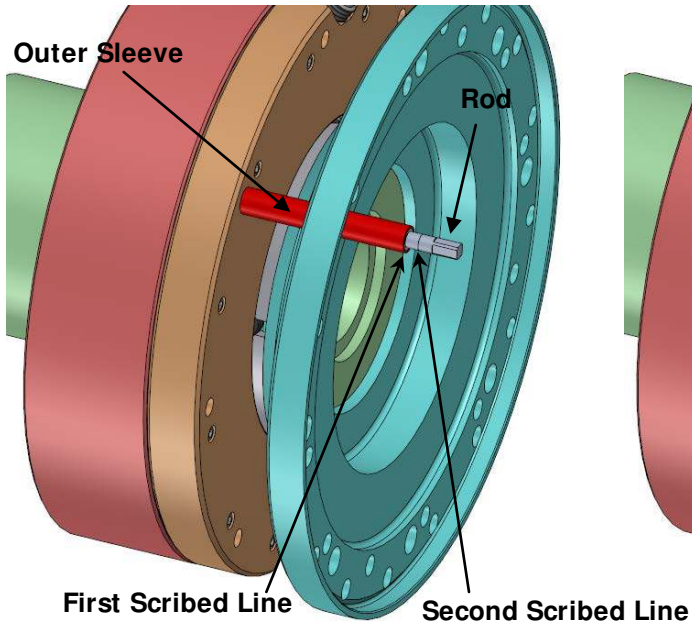

Figure 6a - Setting Initial Grip Position
- 3.4.11 The proper setting of the HTC is accomplished by the separation or gap between the two halves of the clamp (see Figure 1a). Special Gap Tools (Riverhawk PN 7500605 for the drive-end, and PN 7500596 for the compressor-end) have been provided to facilitate this setting. Be sure you maintain the First Grip Position from the previous step until the tool is in place. Thread the gap tool into one of the retraction screw holes until the outer sleeve aligns with the first scribe line on the rod (see Figure 6a). The tool is spring loaded so you will need to push and turn in order to start the thread.